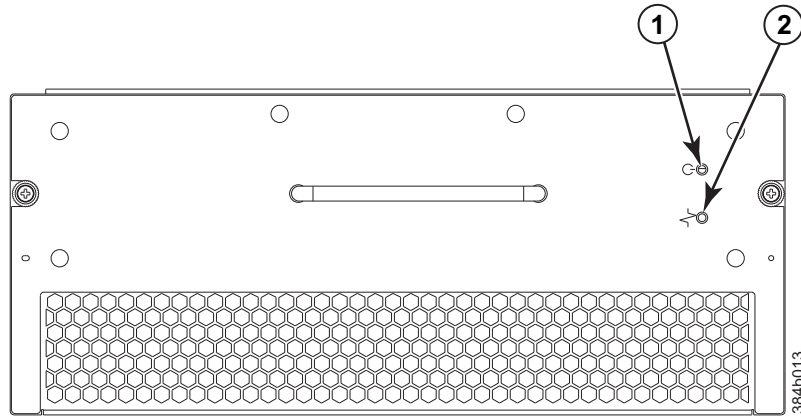

Figure 32. Blower assembly LEDs
1. Check the LED indicators on each blower assembly (see Figure 32 on page 69). The LED patterns may temporarily change during POST and other diagnostic tests; for information about how to interpret the LED patterns, see Table 13 on page 69. Be sure to check both blower assemblies.
Figure 32 on page 69 shows the blower assembly.